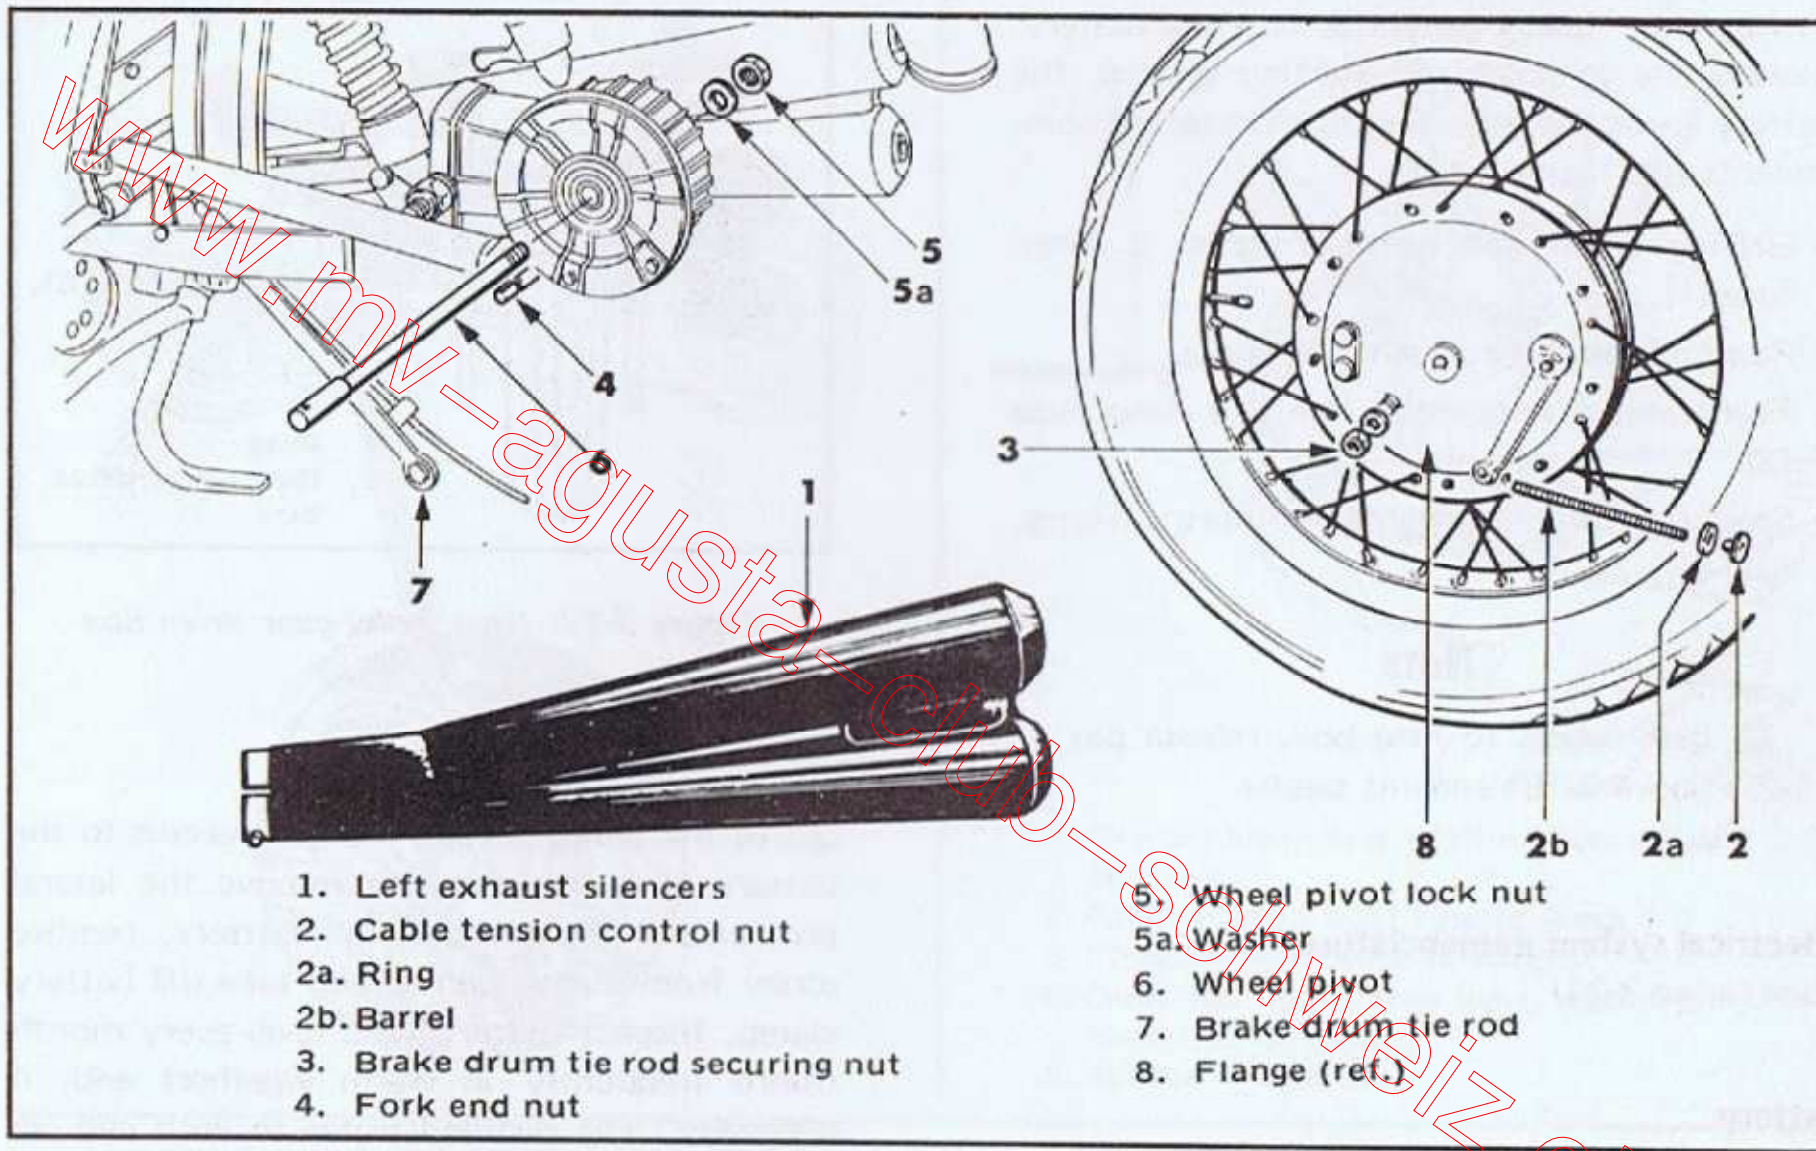

Figure 3-16. Removal of rear wheel
(See figure 3-16)
b. Remove left and right exhaust silencers (1, figure 3-16).
c. Remove cable tension control nut (2) from threaded barrel and extract cable.
d. Remove nut (3) to extract brake shoe flange tie rod.
- e. Loosen nut (4) on left rear fork leg.
- f. Remove nut (5) and extract wheel pivot (6).